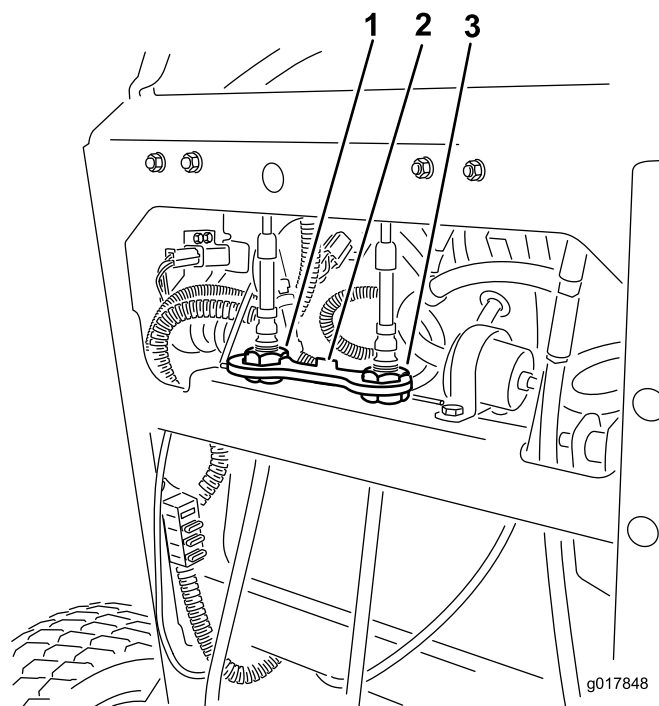

Figure 79
2. Lift and remove the cable lock securing the cable adjusting nuts (Figure 79).
6. Install the cable lock onto the cable, adjusting the nuts to secure the adjustment (Figure 79).